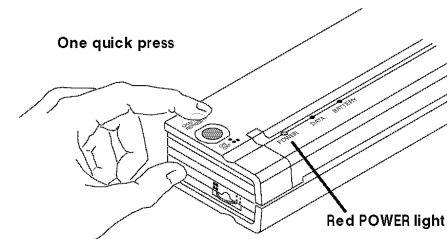

FIGURE 8. Turning on the printer
2. Turn the printer on by pressing the main switch once quickly. The red POWER indicator lights up. (If you are using the battery, the green BATTERY indicator also lights up.) See Figure 8.